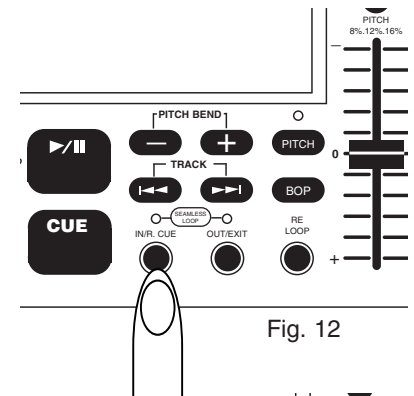

Fig. 12
- 1) Press **PLAY/PAUSE BUTTON (9)** so a CD is playing.
- 2) Press **IN/R. CUE BUTTON (12)**. This will set the starting point of the SEAMLESS LOOP. The **IN/R. CUE (12)** LED will light (Fig. 12).